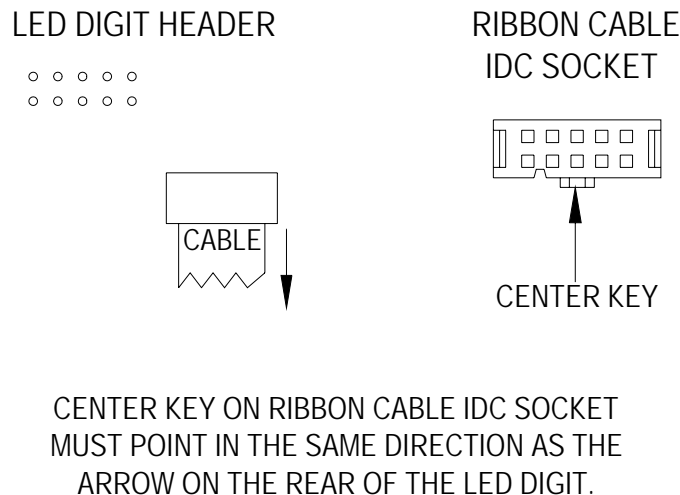

Figure 11 LED Digit Ribbon Cable Connection Diagram
6. Plug the ribbon cable onto the header on the back of the circuit board. Refer to figure 11 in order to plug the ribbon cable IDC connector onto the circuit board in the proper orientation.